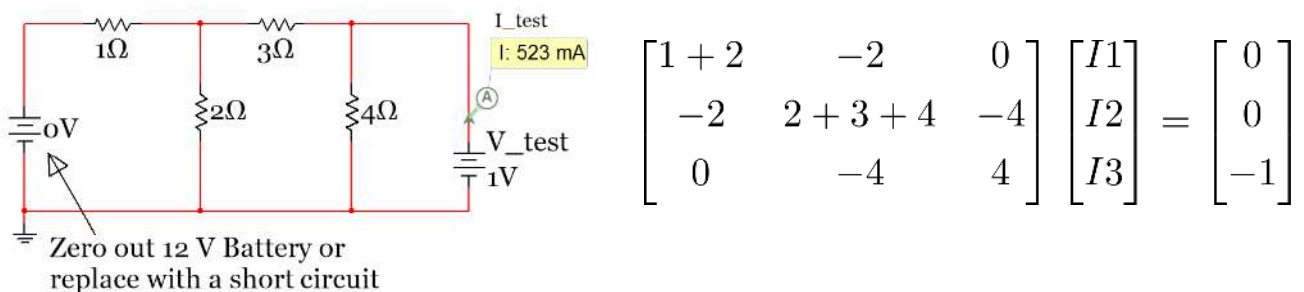

Figure 2.63: Sub-Problem 2 - I_{Test} Calculation – Used in Method 3 to determine $R_{th} = V_{Test}/I_{Test}$
- Using the Mesh Matrix in Figure 2.63 I_{Test} is calculated to be 523 mA. $R_{th} = 1V/.523A = 1.913 \Omega$